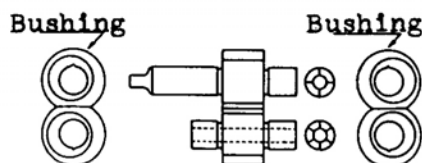

Fig. 99—View showing correct assembled direction and position of hydraulic pump bushings and gears.
Reassembly is reverse order of disassembly. Refer to Fig. 99 for correct assembled direction and position of inner bushings (4), outer bushings (7) and idler gear (6). Install oil seal (11) with number on seal facing outward. Coat all working components, "O" rings and oil seal with a thin film of suitable lubricant during reassembly.